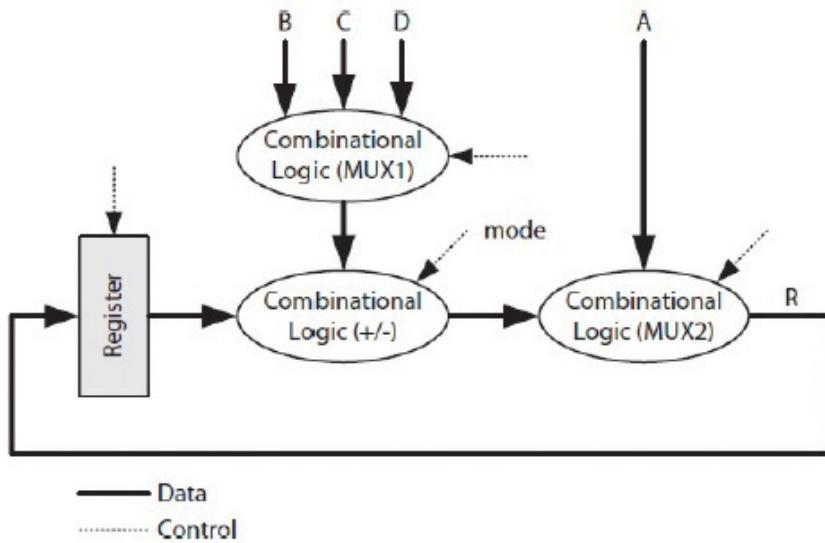

FIGURE 6.3 A multicycle data path requiring four clock cycles to compute $A + B + C + D$ or $A + B + C - D$.
b. Multi-cycle data path in Fig. 6.3.